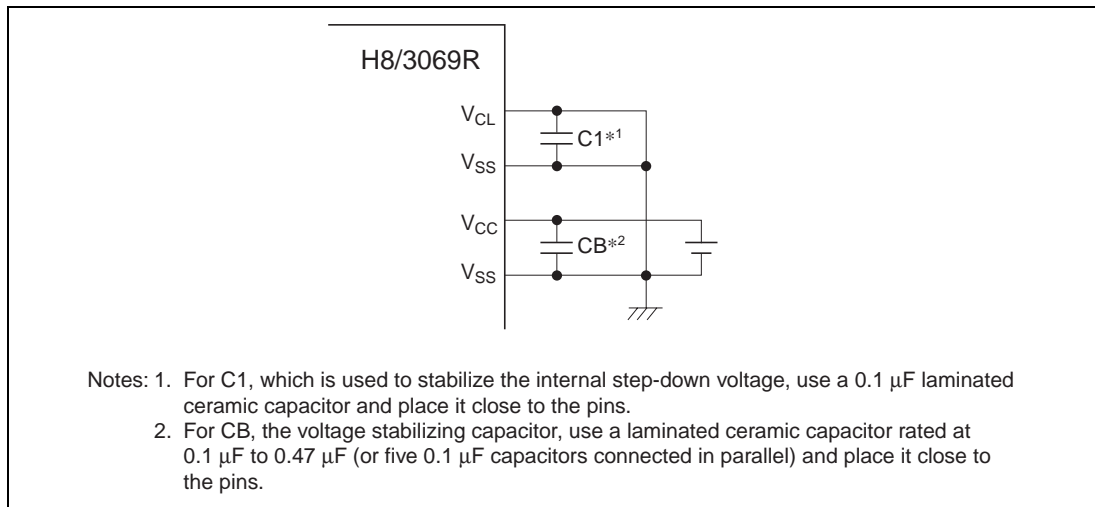

Figure 21.30 Method of Connecting Capacitors to V_{CL} and V_{CC} Pins
Insert a capacitor (C1) between the V_{CL} and V_{SS} pins to stabilize the internal step-down voltage and a voltage stabilizing capacitor (CB) between the V_{CC} and V_{SS} pins. Figure 21.30 shows a wiring example.